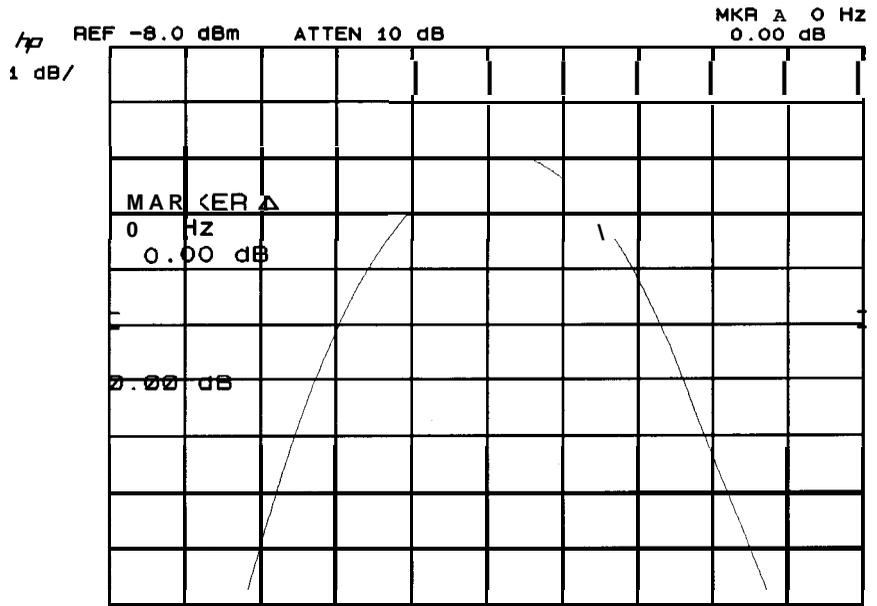

Figure 4-6. Bandwidth Switching Uncertainty Measurement
5. Key in settings according to Table 4-6. Press MARKER **PEAK SEARCH** at each setting, then read the amplitude deviation from the MARKER **Δ** readout at the upper right of the display (see Figure 4-6). The allowable deviation for each resolution bandwidth setting is shown in the table.